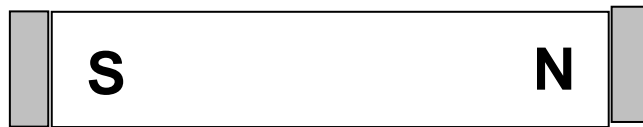

Figure 7
- b. From your observations, sketch the magnetic field on the diagram at figure 7.